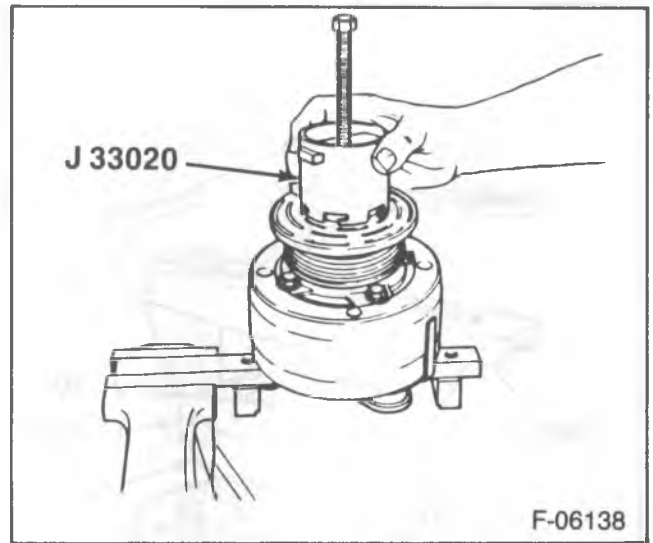

Figure 12—Pulley Rotor and Bearing Puller Installation
- Install J 33020 into the slots in the rotor and rotate the puller (figure 12). Remove the rotor and hub assembly.